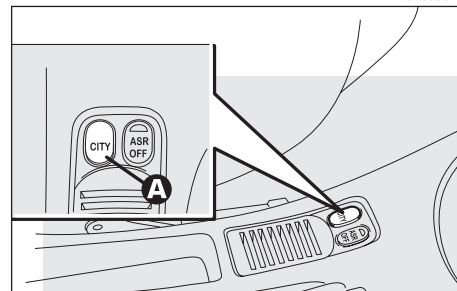

fig. 98
- the second is automatic, called **CITY**, in which the system decides directly when to shift gear (mode selectable with the specific button **A-fig. 98**).